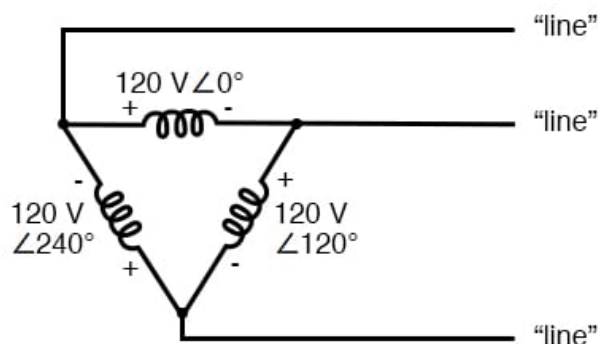

Figure 8 – 3 Phase, 3 Wire Systems
A 3-phase 3-wire system (Delta or “Δ” connection) consists of three alternating current (AC) phase wires, each separated by 120° in phase, but it does not have a neutral wire. See **Figure 8**.